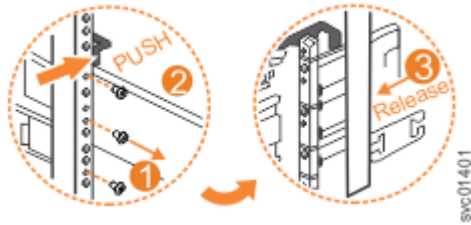

Figure 97. Remove the rail assembly from the rear frame bracket
3. Remove the two screws that attach the inner rail section to the rear bracket, as shown in Figure 97 on page 148.
4. Pull the rail forward away from the rear bracket, as shown in Figure 97 on page 148.